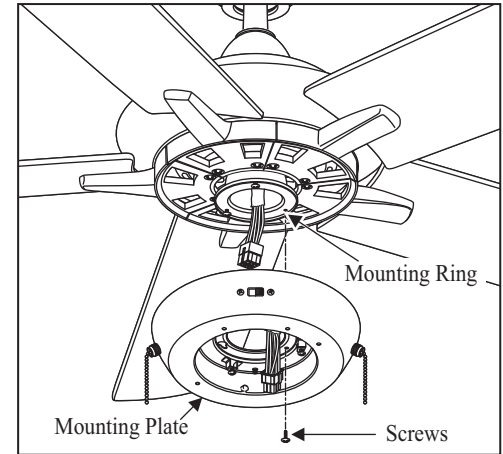

Figure 14
2. Place the key holes on the mounting plate over the 2 screws previously loosened from the mounting ring, turn mounting plate until it locks in place at the narrow section of the key holes. Secure by tightening the 2 screws previously loosened and the one previously removed. (Figure 14)